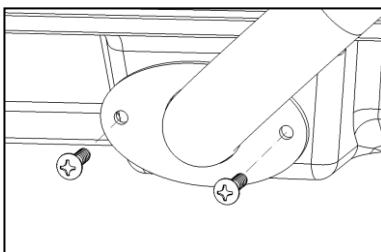

Figure 3
3. Place the OVAL BRACKET over the BASE TUBE and slide the OVAL BRACKET down to the spa. Using the drill with Phillips bit, attach the OVAL BRACKET to the spa, using two pan head screws, as shown in Figure 3.